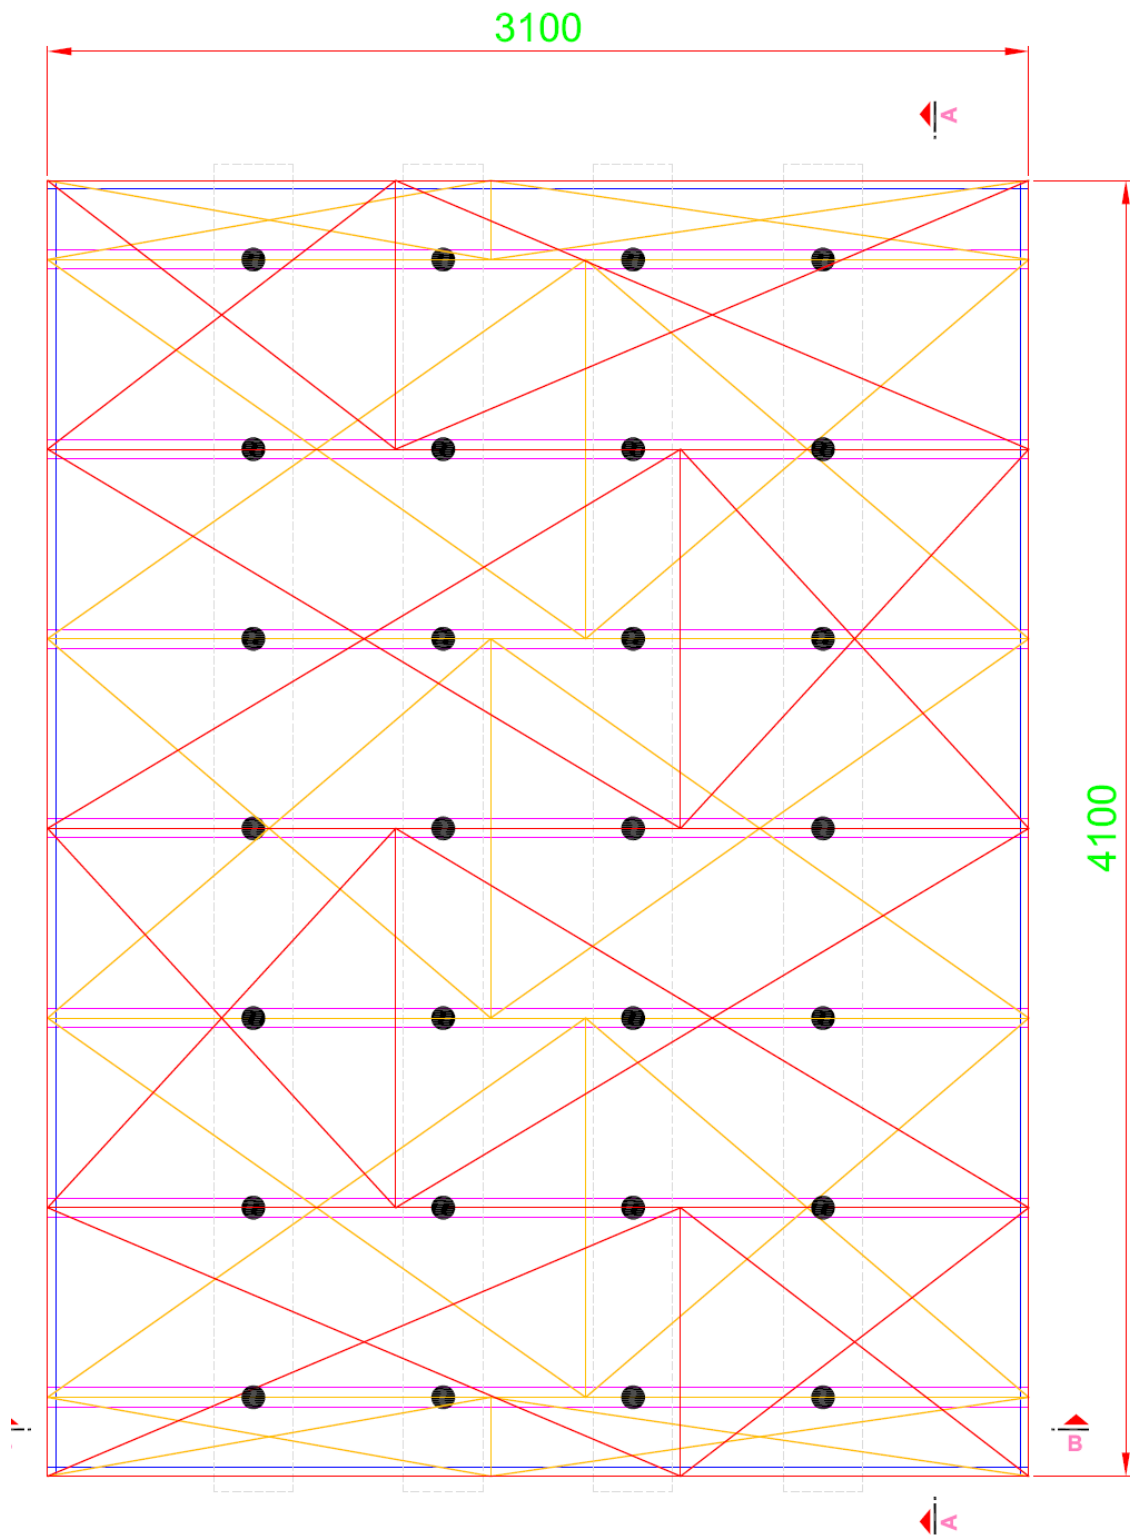

Figure 1: Suspended ceiling construction general view
- Location : See figure 1, 2 and 3.
The suspended ceiling system have two layers of plasterboards. Plasterboards fixing to framework with self tapping screws screw. Joint tape and jointing compound were used at the joints of plasterboards. See figure 1, 5 and 6 for the layout of the panels.